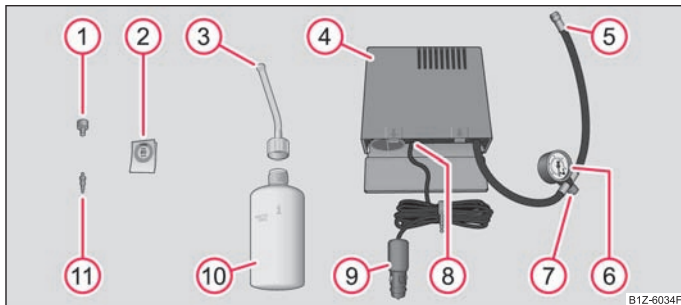

Fig. 5 Components of the tyre repair kit
- Stick the sticker ② ⇒ fig. 5 on the dash panel in view of the driver.
- Forcefully shake the tyre inflator bottle **10** ⇒ page 6, fig. 5 several times.
- Screw the tyre inflation hose **5** ⇒ page 6, fig. 5 of the air compressor firmly onto the tyre valve.